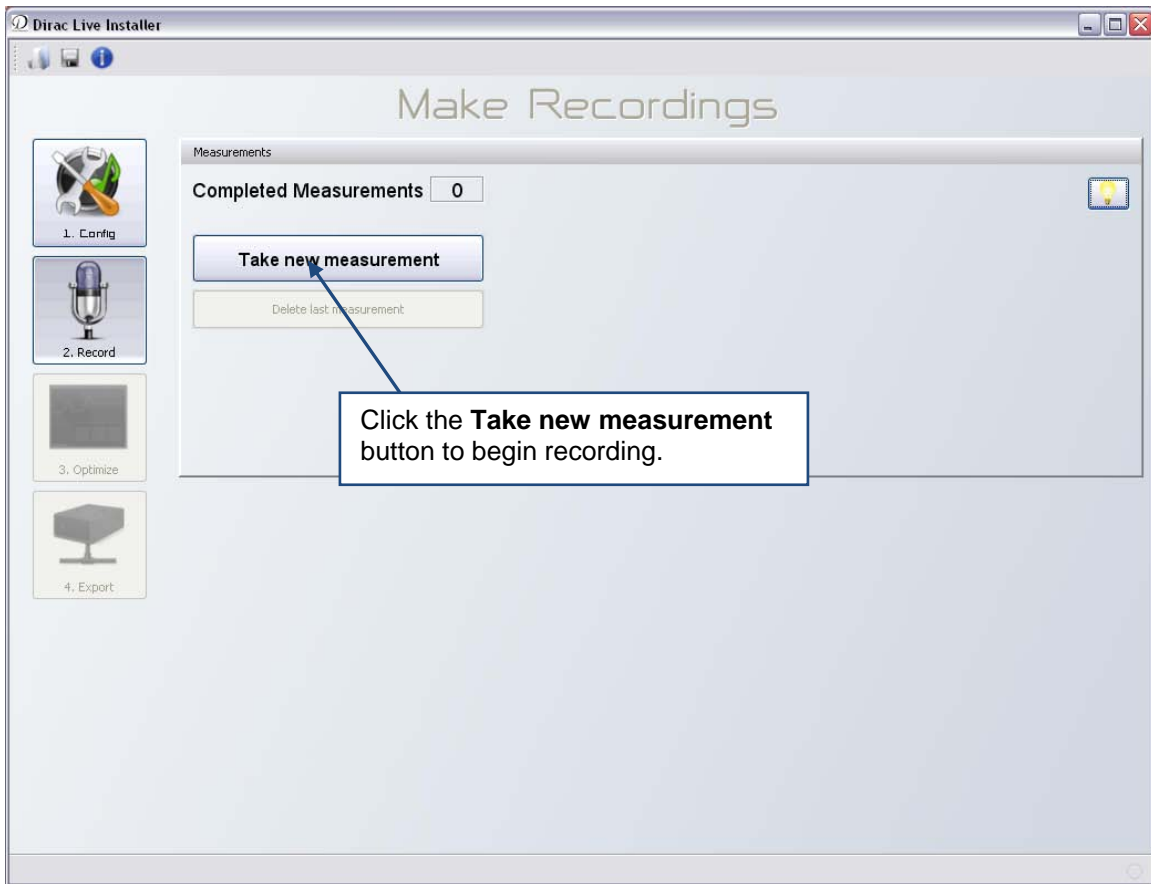

Figure 11. Record Samples Screen
3. Press the **Take new measurement** button. See Figure 11.